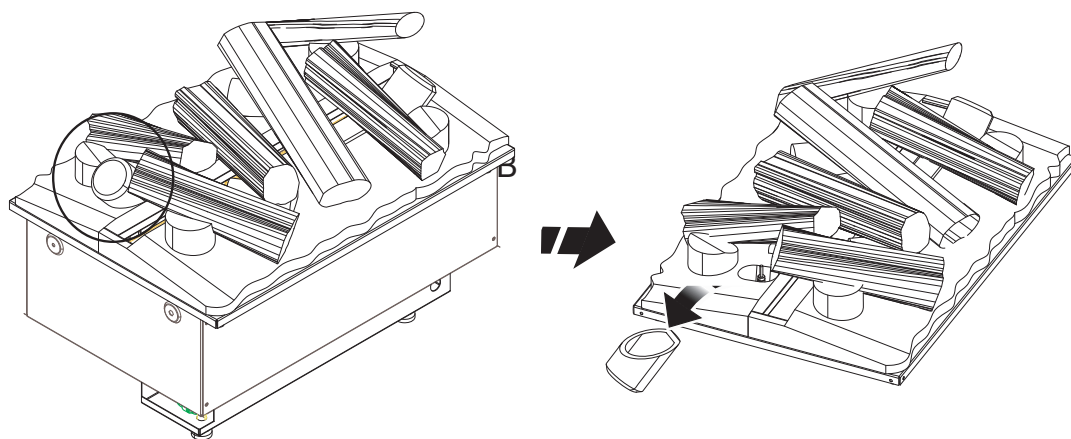

Fig.14
3. Once the fuel bed is in place, remove the small loose log (Fig 14). This small log is secured with magnets and should easily lift off the fuel bed.